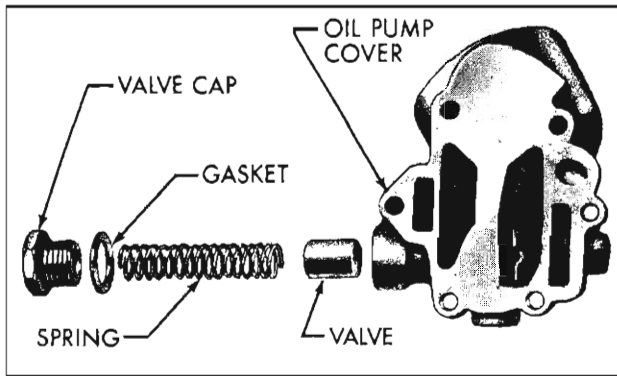

Fig. 3-123 Oil Pump Cover
2. Remove the oil pressure relief valve cap, spring and valve. (Fig. 3-123). Oil filter bypass valve and spring are staked in place and should not be removed.
1. Lubricate and install pressure relief valve and spring in bore of oil pump cover. (Fig. 3-123) Install cap and gasket. Torque cap to 25-35 ft. lbs. with a reliable torque wrench. Do not over-tighten.